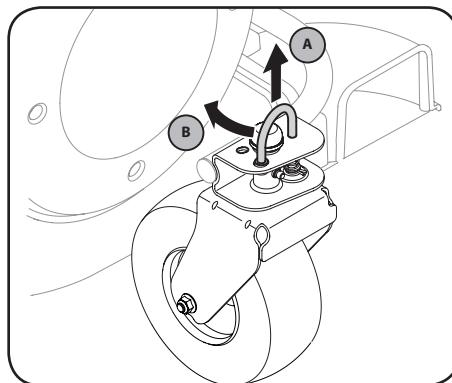

Figure 4-6
1. To lock the caster, lift the lock pin and rotate it rearward, releasing it into the larger hole. See Figure 4-6.